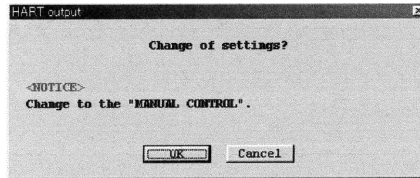

Fig.55
- ④ After filling in all the fields required, click on "OK" button. A message box as shown in Fig. 55 then appears.